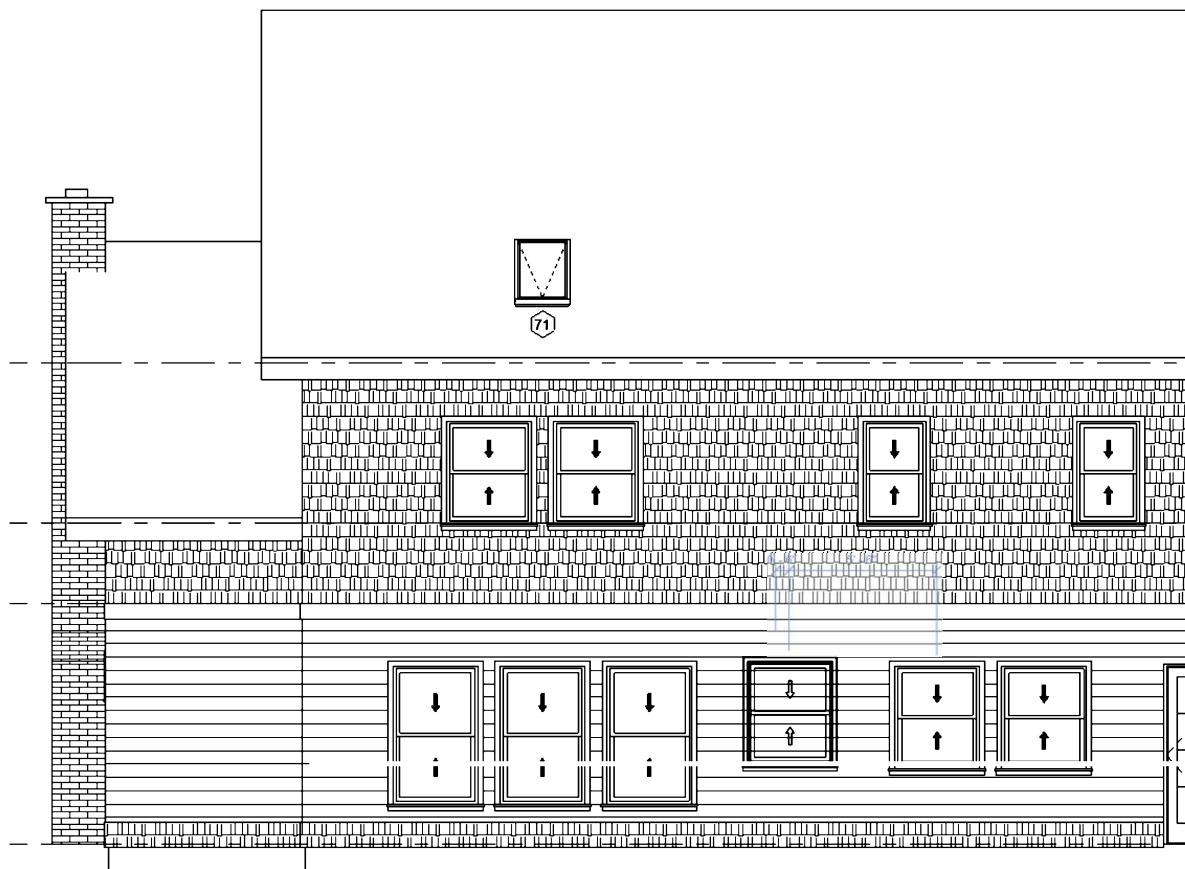

FIGURE 10-2.3 Placing a window on the North elevation
10. Place a window as shown in **Figure 10-2.3**; make sure the bottom of the window *Snaps* to the dashed, cyan colored sill line.